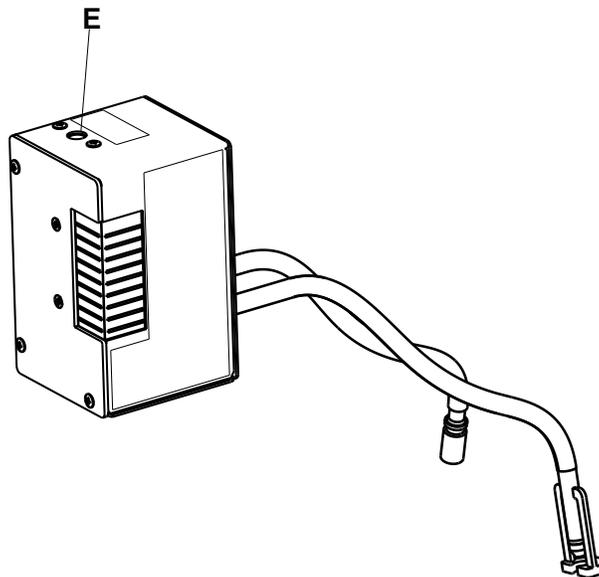

Figure 55 – TP10 flow meter
3. Fill the TPT10 thermometer well (D) with sterile distilled water (Figure 55).